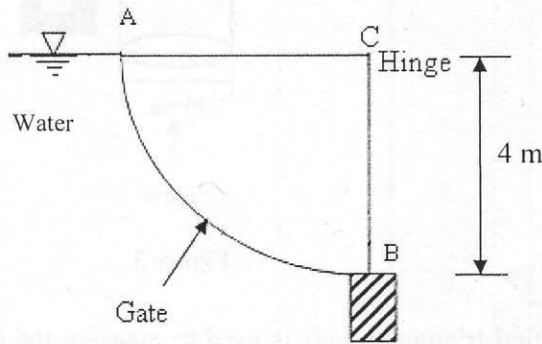

Figure 1
- 1 (a) Derive the Bernoulli's equation for incompressible fluid flow. (8)
(b) Find the total force acting on the gate per m length, which is a quadrant of a circle of radius 4 m (as shown in Figure 1). At what angle will it be acting to the horizontal? (7)